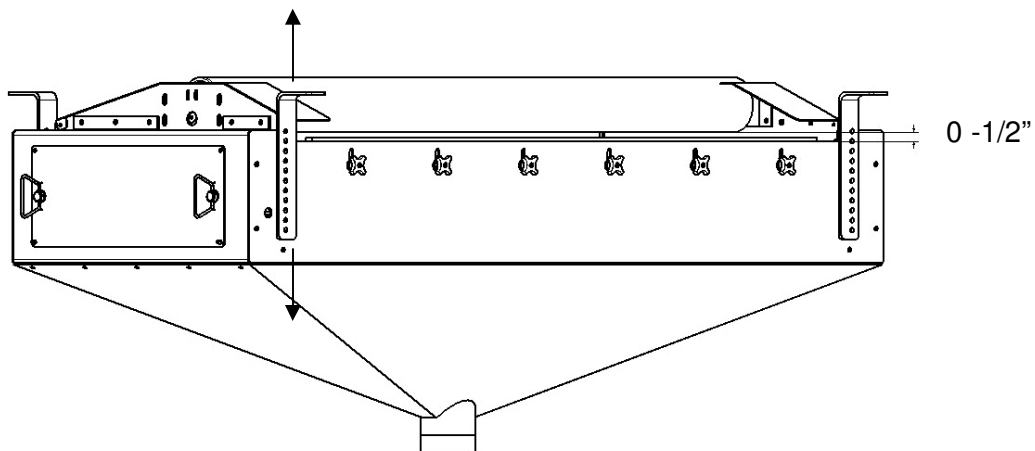

Figure 9. WashBox Install Height
The Hangers (17) of the WashBox mount to the frame / structure of the conveyor system. The Hangers have multiple height adjustment holes. The top inside edge of the WashBox should be 0 – 1” from bottom of the belt. See *Figure 9*. In most applications it will be necessary to remove the Hold Down Roller for installation of the WashBox. Once the WashBox has been installed in the correct location, the Hold Down Roller can be reinstated.